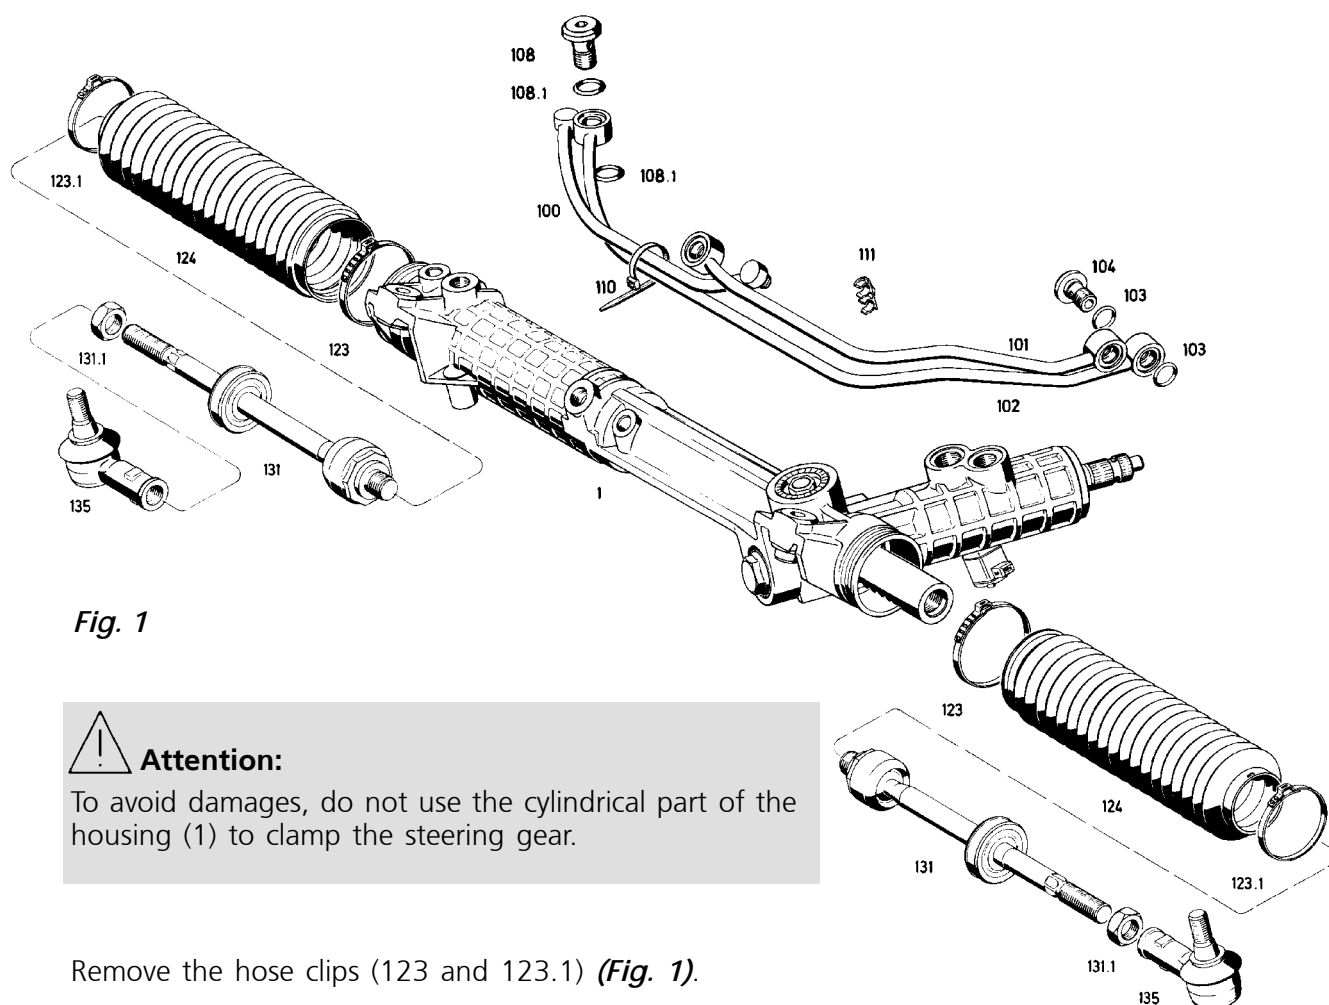

Fig. 1
Remove the hose clips (123 and 123.1) (**Fig. 1**).
Remove the cable clip (110) and the retainer (111) (*Fig. 1*).